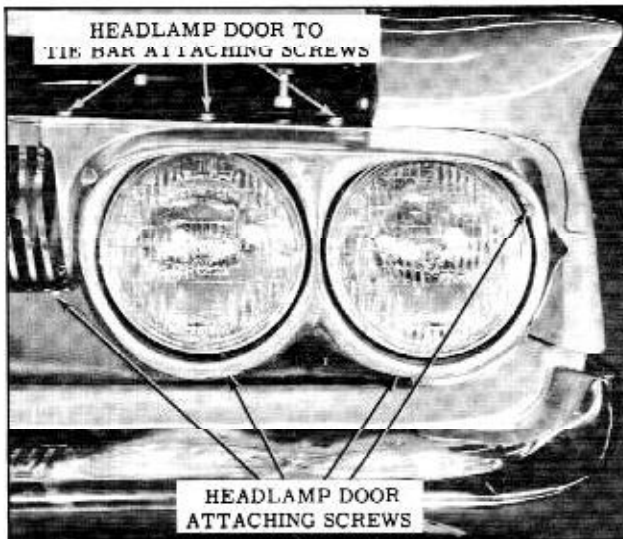

Fig. 11-5 Headlamp Door
1. Remove 7 headlamp door attaching screws and remove headlamp door. (Fig. 11-5)